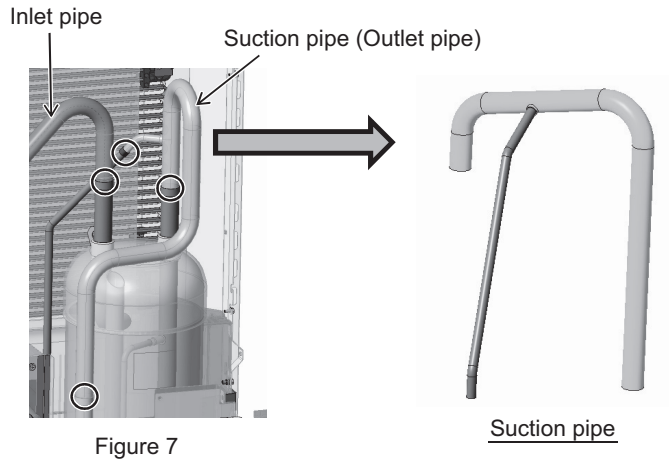

Figure 7
- (8) Remove the braze at the four areas on the accumulator inlet and outlet pipes shown in Figure 7.